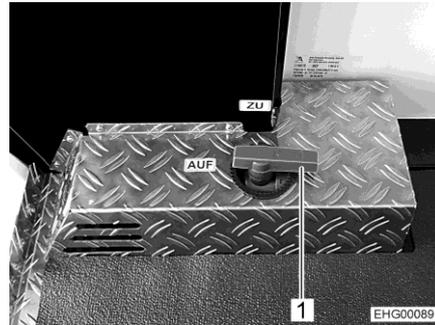

Fig. 195 Operating lever (drain cock)
The operating lever (Fig. 195,1) for waste water disposal is located in the rear garage. The drain pipe with a connection for a waste water hose is located under the vehicle.
- Open the drain cock. In order to do this, turn the operating lever (Fig. 195,1) to the open position ("AUF"). The waste water will run out.
- Close the drain cock again once all of the waste water has run out. In order to do this, turn the operating operating lever (Fig. 195,1) to the closed position ("ZU").